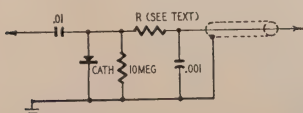

Fig. 2—Shunt crystal diode r.f. probe.
R.f. probe: Voltage readings up to about 200 mc may be made on a v.t.v.m. by using the shunt crystal diode r.f. probe (Fig. 2). Voltages up to about 20 r.m.s. may be safely applied directly to the crystal. The probe generally in-